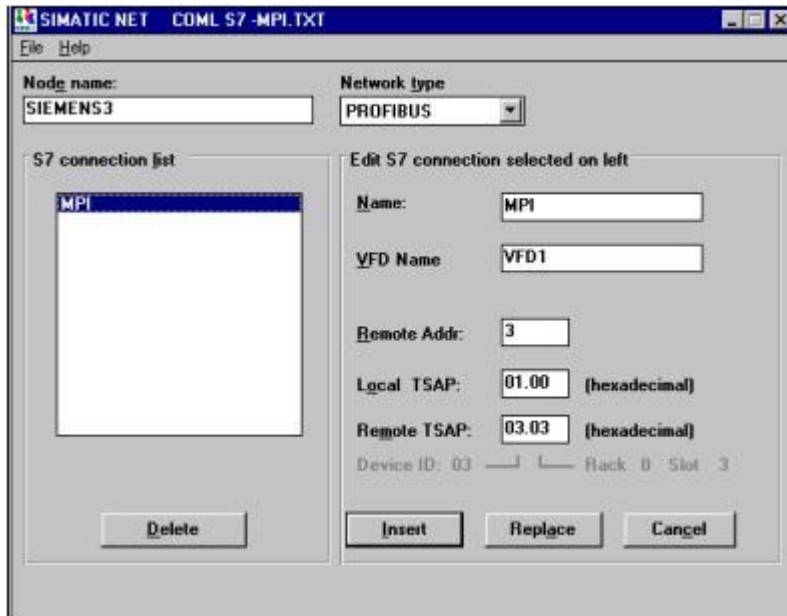

FIGURE 2: CREATING A .TXT FILE
1. Go into COML S7 and create a .txt file as shown in Figure 2.